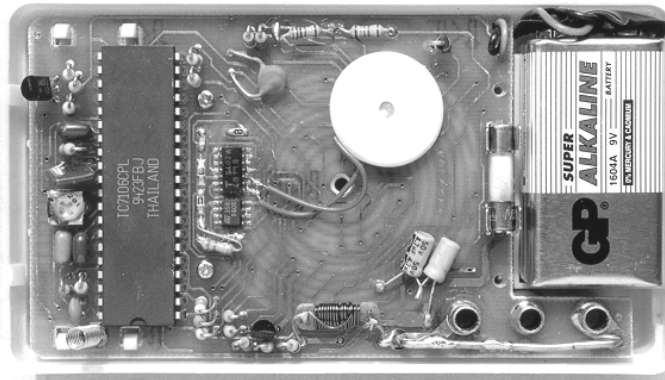

Fig. 14
- (c) (i) Fig. 14 shows a view of the circuit board.